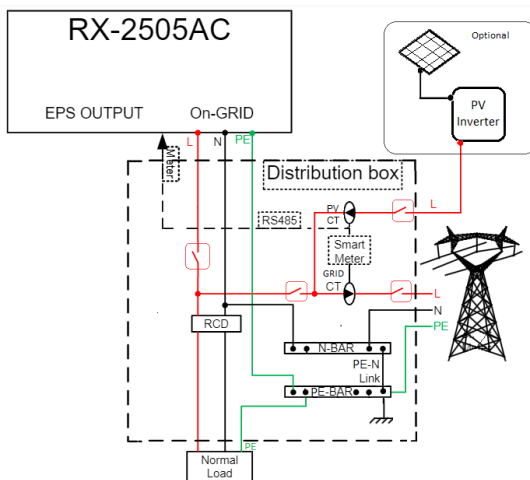

Figure 5-8 – 240V connection diagram On-grid only
1. If you only use the grid-connection function, connect it to the grid terminal as shown in Figure 5-8 and do not connect anything to the EPS terminal.